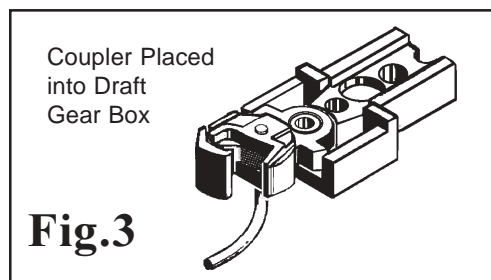

Fig.3
3. Place Coupler into Draft Gear Box as shown in Fig. 3. Add a little more Greas-em and work Coupler back and forth within box to polish.